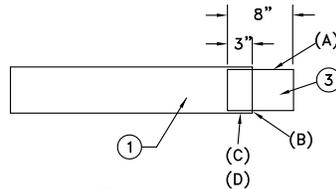

Figure 1
- (A) Cut an 8 inch length of duct to serve as a joiner between the two expansion sleeves.
- (B) Bevel inside edges of sleeves, nipple and joiner.
- (C) Apply cleaner to one end of this joiner and to the inside of an expansion joint sleeve (3 inches wide).
- (D) Immediately apply cement generously to one end of the joiner piece, and insert 3 inches into the end of the expansion joint sleeve. (See Figure 1)
- (E) Insert this 8 inch joiner through the support and repeat steps C and D. Be certain that the shoulders of both expansion joint sleeves set firm.